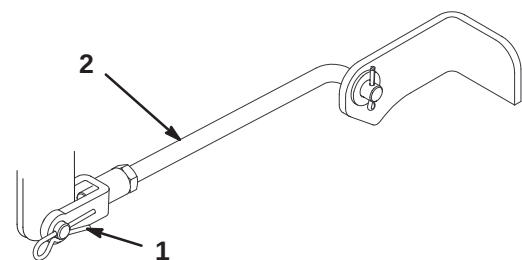

Figure 44
3. Remove the hairpin cotter and clevis pin from the front trunnion yokes (Fig. 44).
- Attach the front trunnion rods to the tractor with the clevis pins and hairpin cottes (Fig. 44).